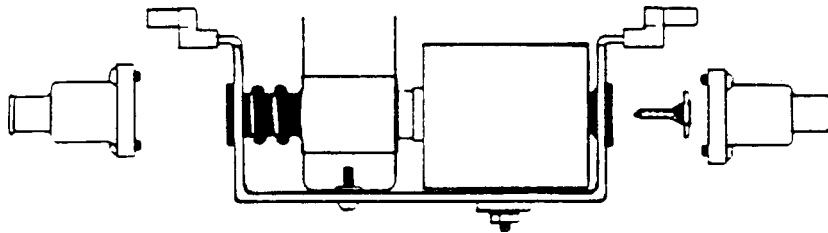

Figure 5-4, Disassembly of Replenisher Pump
- B) Stubborn deposits and larger pieces of foreign material may require that the pump be disassembled for cleaning. Figure 5-4, below, details disassembly of the pumps.